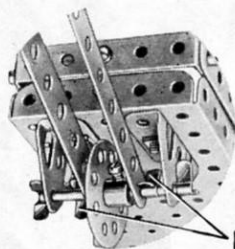

Fig. O.4a
The 5 1/2" Strips forming the handle are placed one on each side of a Bush Wheel on the front axle, and they are held in place by Spring Clips (1) as shown in Fig. O.4a.